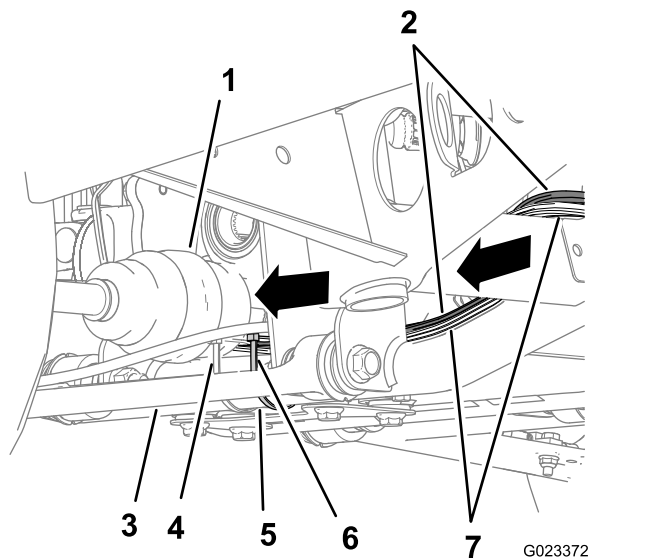
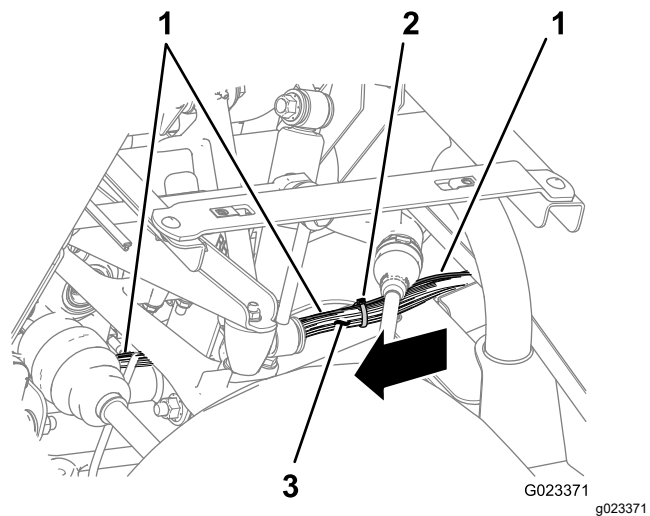
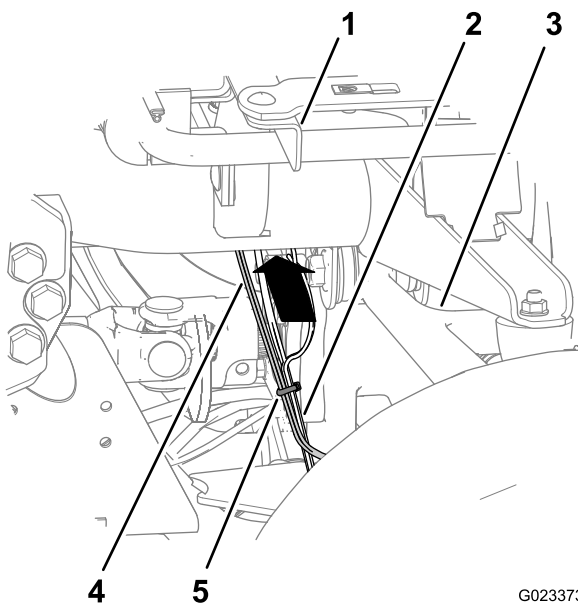

Figure 25
Figure 26
Figure 27
5. Continue routing the wire harness of the kit along the lower-frame tube and then up behind the upper-control arm and the rear-support channel for the seat (Figure 25, Figure 26, and Figure 27).
- Secure the wire harness of the kit to the rear-main harness with cable ties at the 2 locations shown in Figure 26 and Figure 27.
- Secure the wire harness of the kit to the lower-frame tube with a cable tie at the location shown in Figure 25.